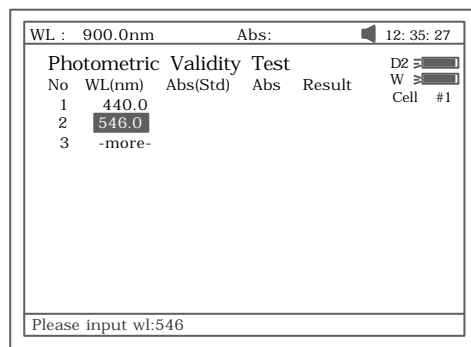

Fig 90
1. Press **【SET】** to set the wavelength. Press **【ENTER】** to edit and input wavelength by pressing the numeric keypad (Fig 90). **【ESC/STOP】** to finish inputting and exit.